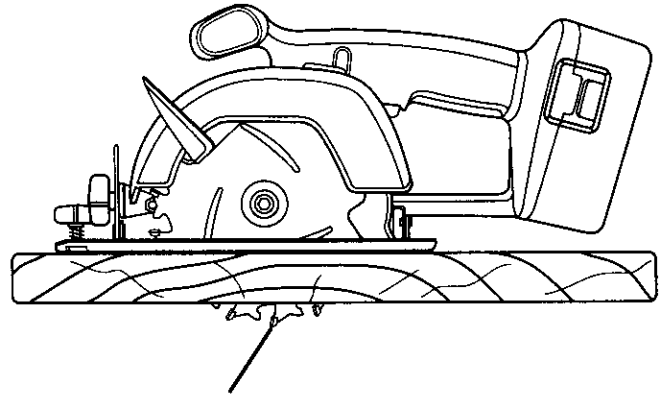

Fig. 8
- Always keep the correct blade depth setting – the correct blade depth setting for all cuts should not exceed 1/4 in. below the material to be cut. See Figure 8. One blade tooth below the material to be cut works best for most efficient cutting action.